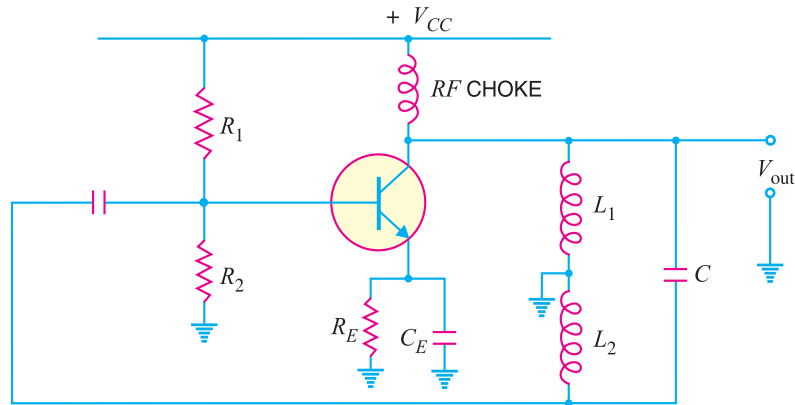

Fig. 14.25
- Figure 14.25 shows the Hartley oscillator. If $L_1 = 1000 \mu\text{H}$, $L_2 = 100 \mu\text{H}$ and $C = 20 \text{ pF}$, find the (i) operating frequency and (ii) feedback fraction. [(i) 1052 kHz (ii) 0.1]
4. For the Hartley oscillator shown in Fig. 14.25, $C = 250 \text{ pF}$, $L_1 = 1.5 \text{ mH}$, $L_2 = 1.5 \text{ mH}$ and $M = 0.58 \text{ mH}$. Determine the operating frequency. [159.2 kHz]